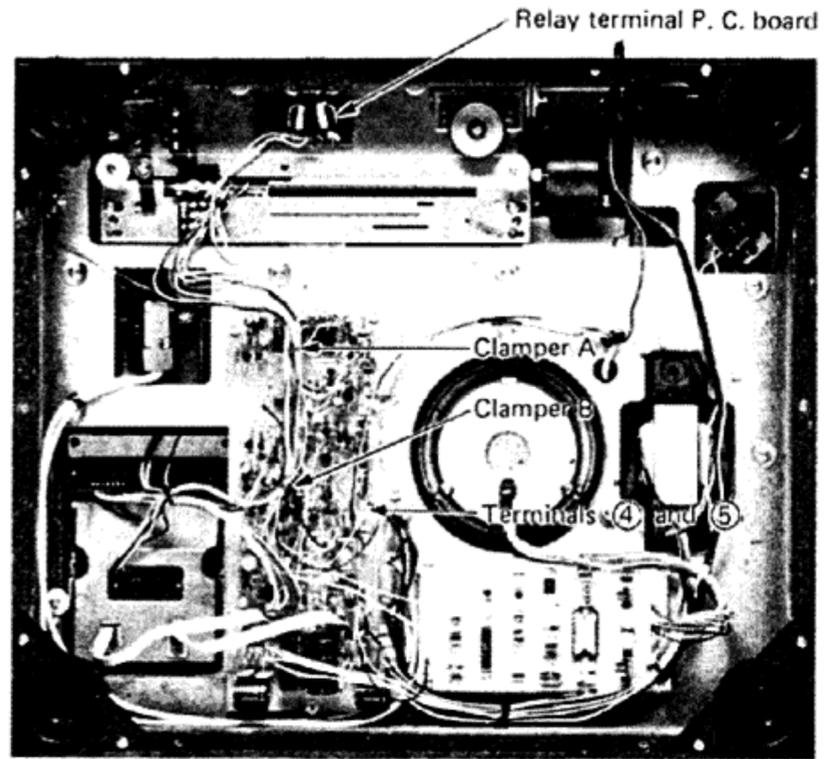

Fig. 1
- 2) Disconnect clampers A and B shown in Fig. 1 and remove connectors CONN-5 and CONN-6.
- 3) Using a soldering iron, disconnect the following wires from the tonearm base: lead wires (red and black) leading to terminals ④ and ⑤ of the logic P. C. board, and the shield wires (red and white) and the black wire leading to the relay terminal P. C. board.